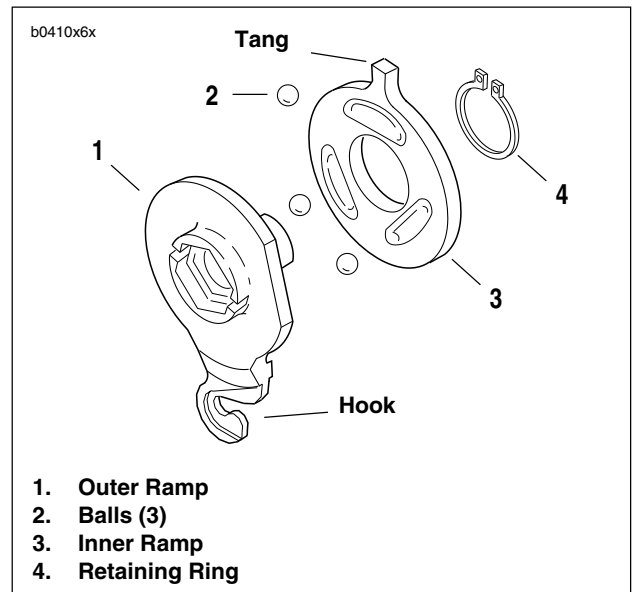
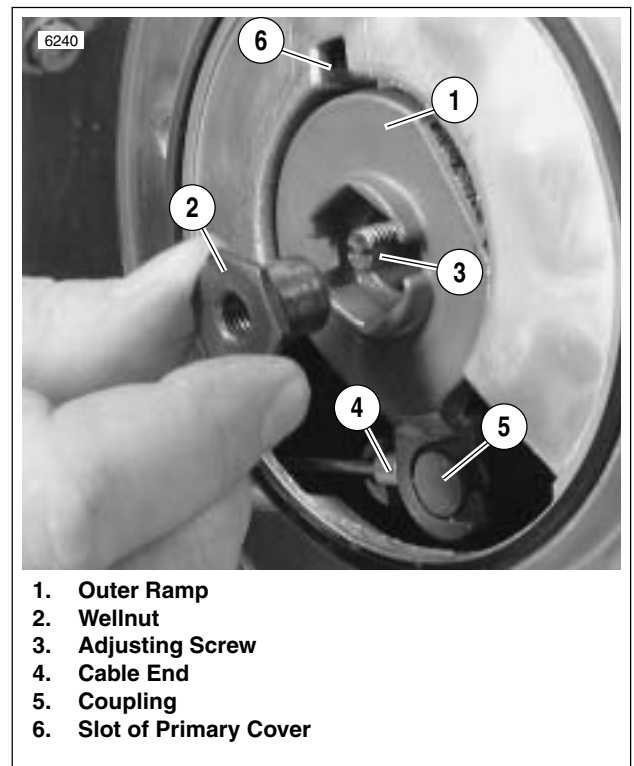

Figure 6-11. Inner and Outer Ramp
Figure 6-12. Nut and Outer Ramp
1. See Figure 6-11. Assemble inner and outer ramp.
- a. Apply multi-purpose grease to balls (2) and ramps (1, 3).
- b. Insert balls in sockets of outer ramp (1).
- c. Install inner ramp (3) on hub of outer ramp (1) with tang 180° from hook of outer ramp.
- d. Install **new** retaining ring (4) in groove of outer ramp hub.
2. See Figure 6-12. Install ramp assembly.
- a. Fit coupling (5) over cable end (4) with rounded side inboard, the ramp connector button outboard.
- c. Rotate assembly counterclockwise until tang on inner ramp fits in slot of primary cover (6).
- a. Thread wellnut (2) on adjusting screw (3) until slot of screw is accessible with a screwdriver.
- b. Fit nut hex into recess of outer ramp (1).